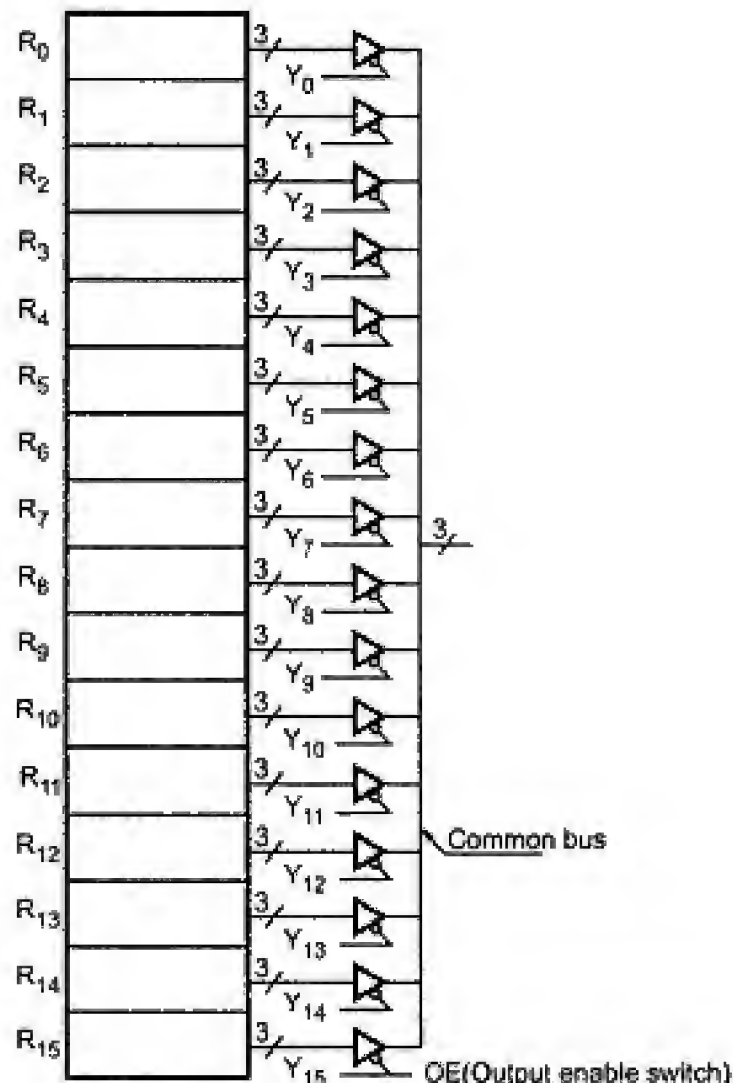

Fig. 1.4 Register array with tri-state switches
Register array consists of sixteen 3 bit registers. Each register can store 3 bit word. The outputs of all registers are connected to the common bus through the Output Enable (OE) switch as shown in Fig. 1.4.